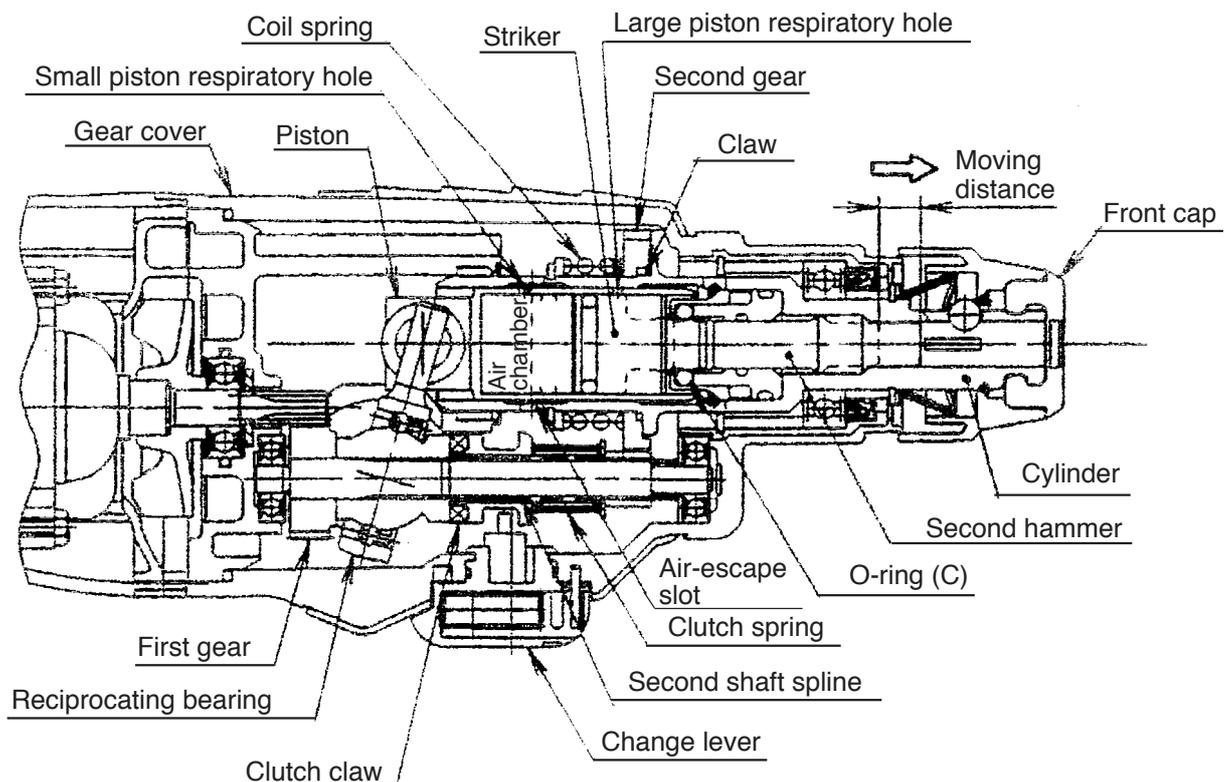

Fig. 3
The idle hammering prevention mechanism in the Model DH 24PB3 is different from that of conventional rotary hammers. When the drill bit is lifted from the concrete surface on completion of drilling, the second hammer moves to the position indicated by the continuous lines in Fig. 3, and the protruding (lip) portion at the tip of the striker is gripped by O-ring (C) mounted between the hammer holder and the damper holder. In this state, should the piston continue to move so that the small piston respiratory hole is blocked by the inner wall of the cylinder, the air in the air chamber will pass through the large piston respiratory hole and be released through the air-escape slot and large cylinder respiratory hole provided on the inner wall of the cylinder. Accordingly, there is no change in the air pressure within the air chamber, and movement of the striker (idle hammering operation) is prevented. The gripping force of O-ring (C) on the striker is so small in comparison with the conventional mouth system that practically no pressing force at all is required to restart the hammering operation.